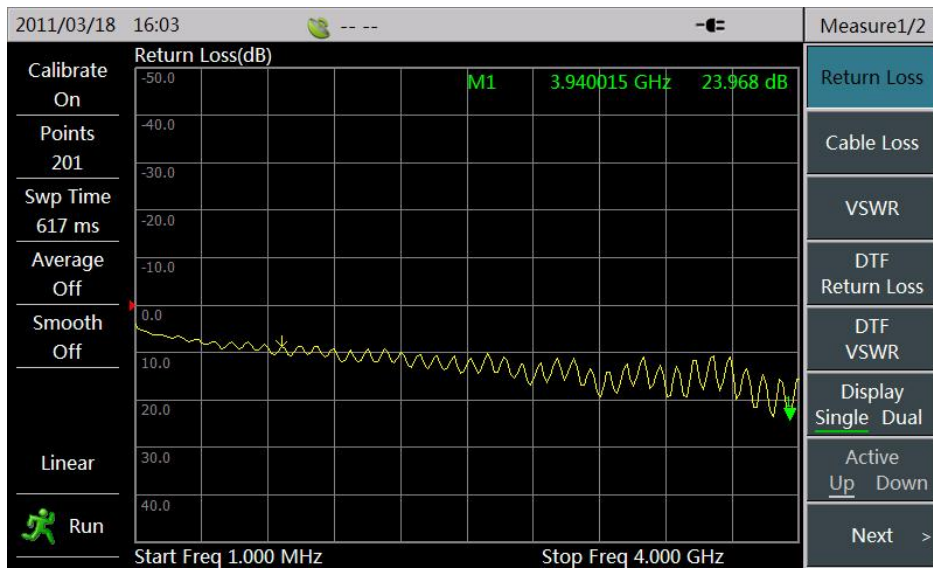

Figure 1-8 Return Loss Curve under Default Scale
- 1) According to the operating steps in Section 1.1, the measured return loss curve can be observed in screen of the instrument. In order to observe the details of the return loss curve more clearly, user can press **【Ampt】**, and then click [Top] and [Bottom] menu in the menu bar to set the amplitude value displayed in the screen, or directly select the [Auto Scale] adjustment to set the value, as shown in Figure 1-8 and 1-9: